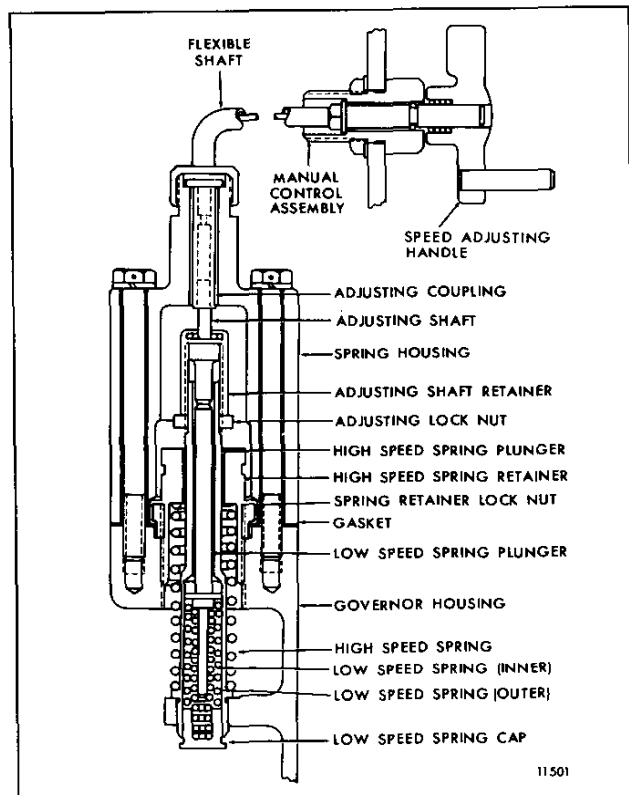

Fig. 1 – Cable Operated Governor Spring Housing and Components
10. Pack the needle bearings with grease, place a washer over each bearing and insert the control link lever between the two bosses in the housing (Fig. 1). Insert the control link lever shaft, then insert the shaft retainer in the notch of the shaft and fasten it to the housing with the retaining screw.
During highway operation, the governor functions as a limiting speed governor, controlling the engine idling speed and limiting the maximum operating speed. At the unloading area, the throttle is left in the idle speed position and the speed adjusting handle, on the cable operated governor (Fig. 1), is turned to the speed required within the above range to operate the auxiliary equipment. For the air operated governor (Fig. 3), the engine speed is changed to the speed required by increasing or decreasing the air supply pressure to the governor. The governor then functions as a variable speed governor, maintaining a constant speed when the load is constantly changing, during the unloading operation. Before resuming highway operations, the speed adjusting handle on the cable operated governor must be turned back to the stop, then turned ahead about one-quarter of a turn. The air operated governor's air supply pressure must be vented before resuming highway operations.
The variable low-speed limiting speed governor is similar to the limiting speed governor with the exception of the spring housing and its components. Therefore, disassemble the governor as outlined in Section 2.7.1 or 2.7.1.1, then disassemble the spring housing and its components (Fig. 1) as follows: